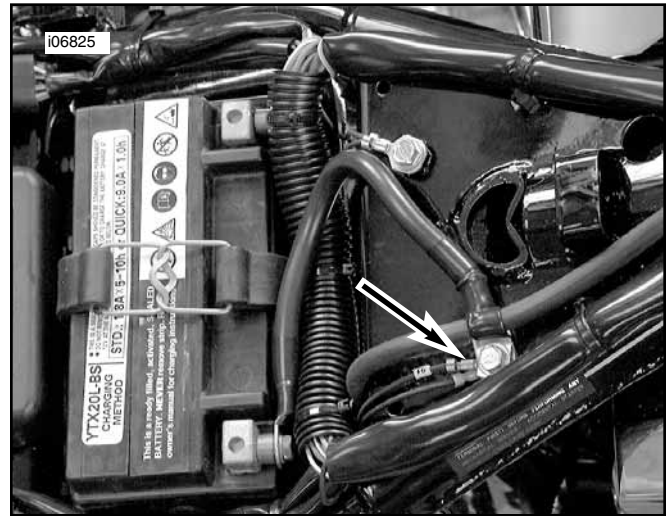

Figure 13. Ground Wire Location
1. See Figure 13. Route the ring terminated wire (BK) to the ground stud or any good electrical ground point.